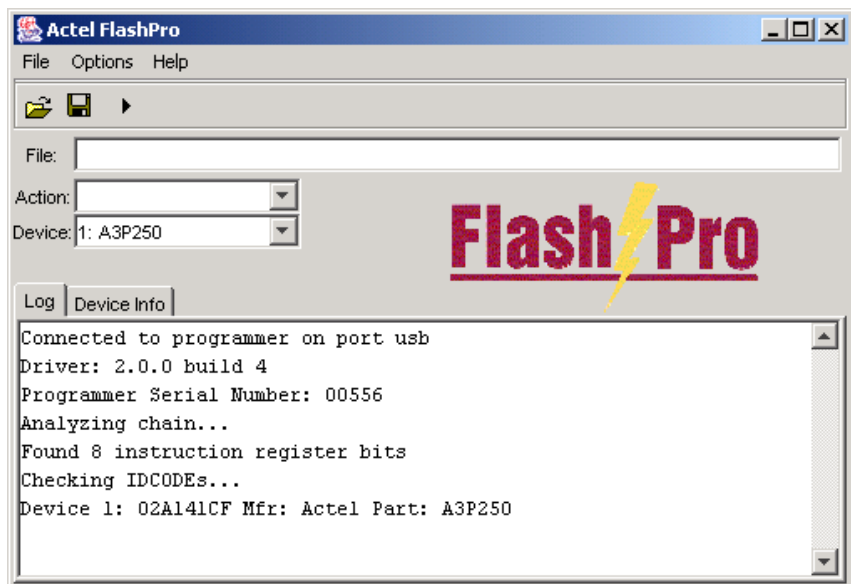

Figure 4-3. FlashPro: Analyzing Chain
1. From the *File* menu, click *Analyze Chain*. Chain details appear in the **Log** window, as shown in Figure 4-3. If you encounter any failures, please refer to “Error Messages & Troubleshooting Tips” for more information.